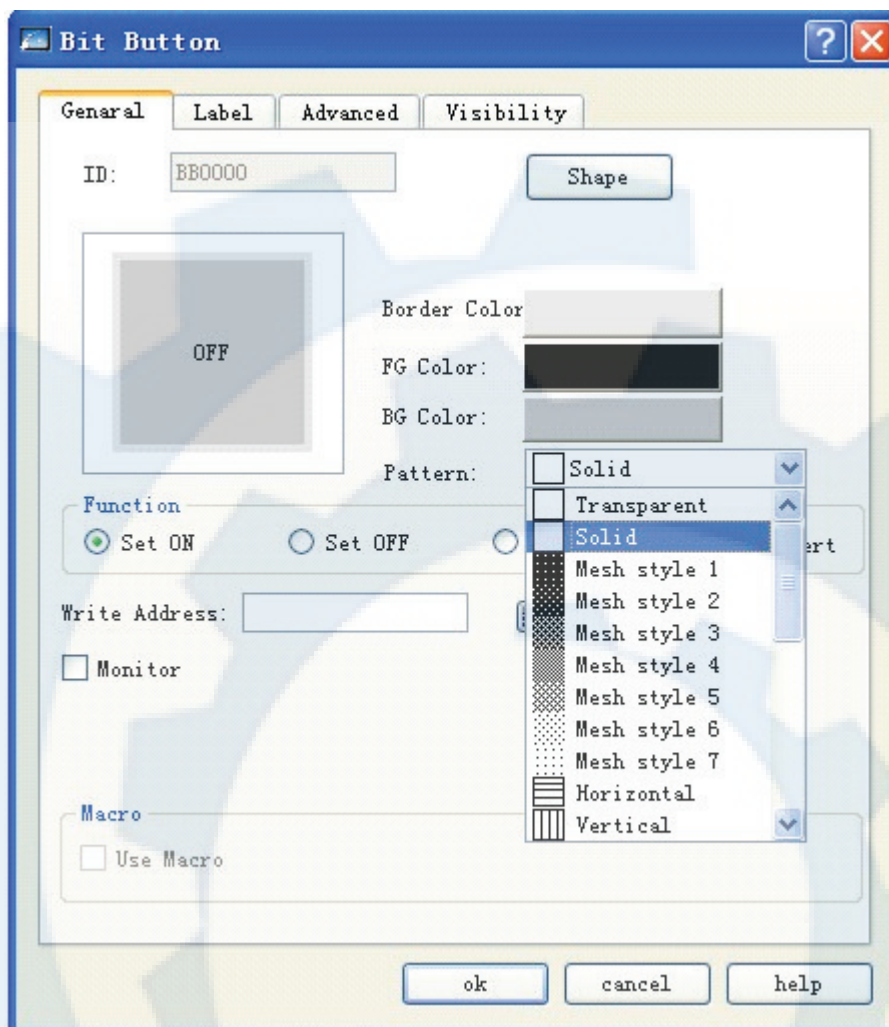

Figure 4-75: Change shape and pattern value
- ◆ **Pattern:** Click this drop-down box, and then you can select any of the 21 patterns to beautify the control. See Figure 4-75 for an example: